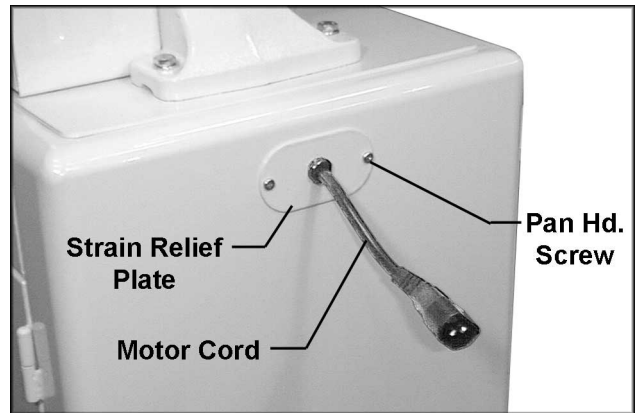

Fig. 8
5. Push motor cord and strain relief plate through the opening in the side of the stand (Fig. 8). Fasten the strain relief plate to the stand with two M5 x 12 pan head machine screws (shown in item B, page 10).